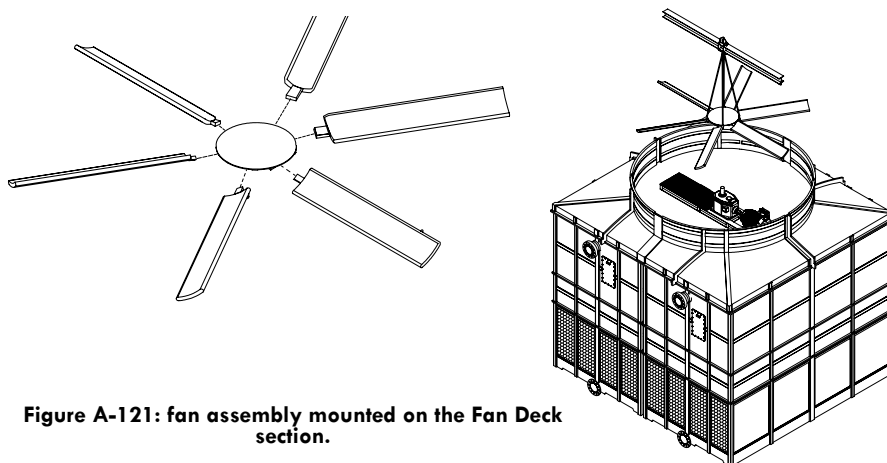

Figure A-121: fan assembly mounted on the Fan Deck section.
- V. Once the Fan Deck section has been installed, assemble the fan on the ground. Using a crane and a spreaded bar lift the fan assembly and mount it on the gear drive box following the Fan assemble procedure (See figure A-121).